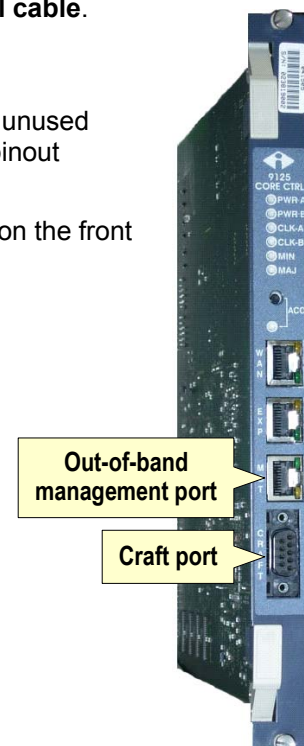

Figure 6 – Core Controller front panel
- 2 Insert the male end of the cable into the Craft port on the front panel of the Core Controller card (Figure 6).